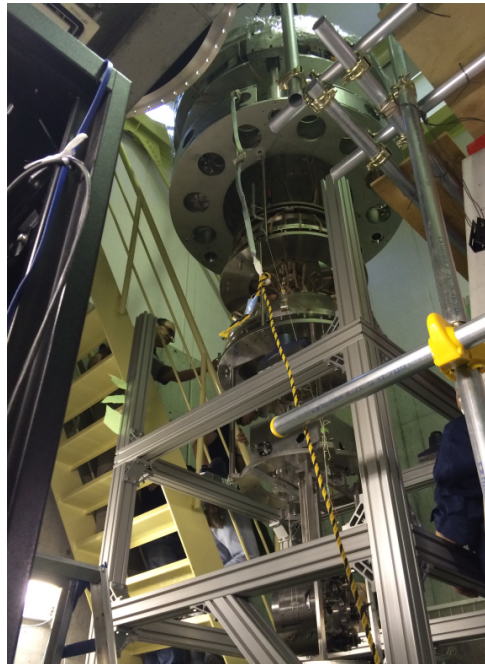

Fig. 4: A sling to control the orientation of the suspension system
- Attach a sling to the pre-isolator to control the orientation of the suspension system during the crane operation (Fig. 4). This is also used when you damp the oscillation excited by the crane operation.